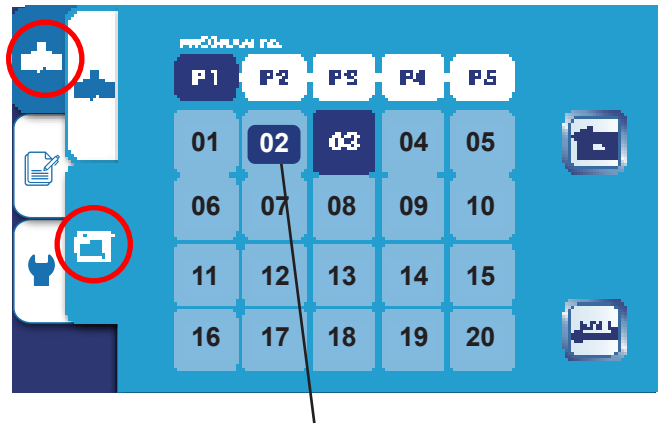

Fig. 11
1. To cut using a programmed job, press the Cutting Mode icon and select the program Folder icon (Fig. 11), then select a job by pressing the Job # and pressing Enter.